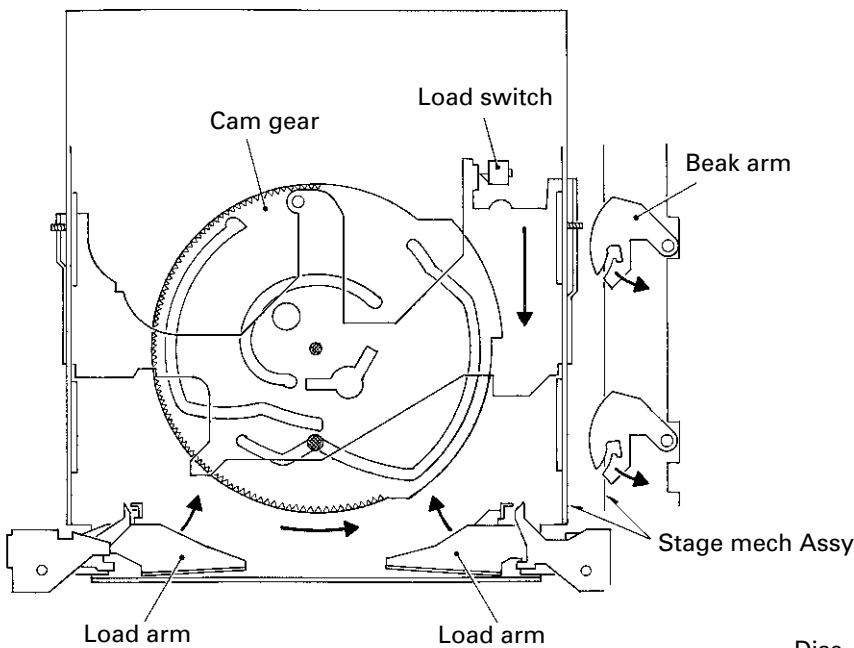

Fig. 21: Elevation OK position
- LOAD arms as shown in Fig.21.